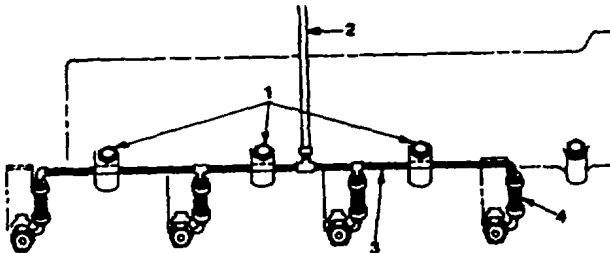

Figure 194. Removal of Leak-Off Manifold
7. Disconnect leak off return hose from leak-off manifold and injection pump valve, remove hose (Figure 194).
8. Remove leak-off manifold with support clips from intake manifold and disconnect from nozzle coupling hoses, remove leak off manifold (Figure 194).